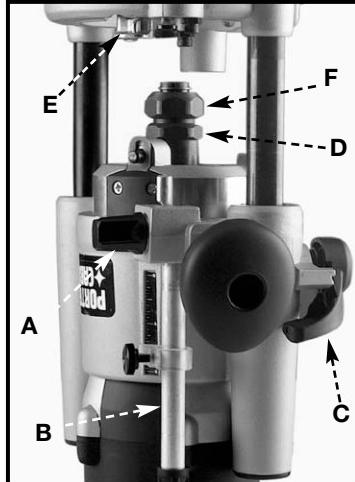

Fig. 10
1. Reach under table and pull down and rotate the spindle lock actuator (E), Fig. 10 into place.
2. Loosen the depth rod locking knob (A) Fig. 10 and ensure the depth rod (B) Fig. 10 is pushed down all the way. Tighten knob.
3. Pull up on plunge locking lever (C) Fig. 10, grab handles and pull base up as far as it can go. Push lever down to lock.
4. Push the spindle lock actuator (E) Fig. 10 while turning the chuck (D) Fig. 5 to engage spindle lock.
7. Place the wrench on the collet nut (F) Fig. 10 and turn COUNTERWISE to tighten. Tighten firmly.